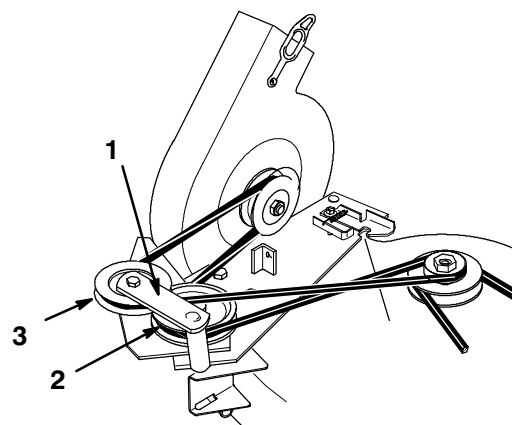

Figure 13
5. Open latch and swing the blower out away from the mower, install the blower belt around idler and blower pulleys as shown (Fig. 13).